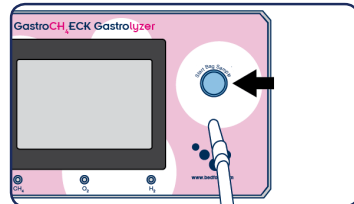

fig.13
4. Push the "Bag sample" button (fig. 13)